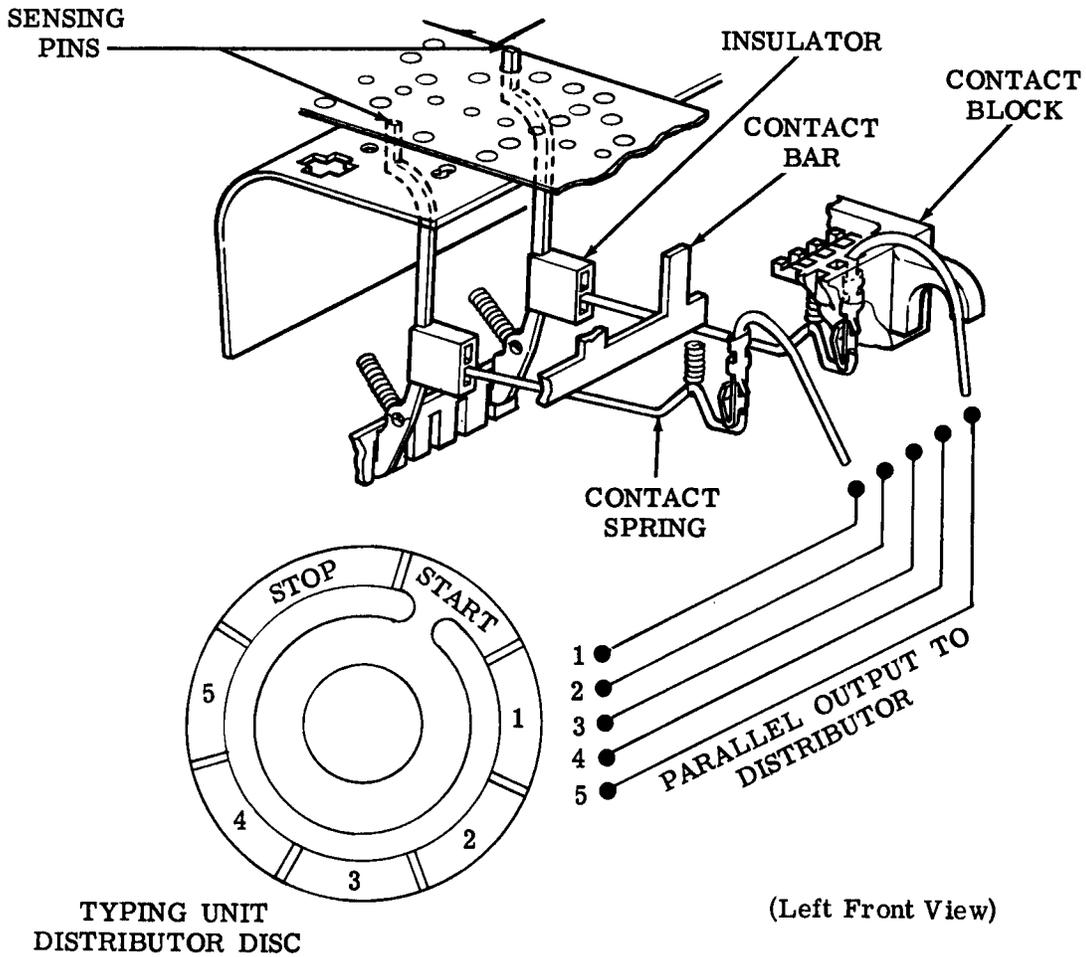

Figure 7 - Contact Block Mechanism
3.11 There is an insulator attached to each sensing pin. The insulators hold five contact springs in a down position, away from the contact bar (Figure 7). The five contact springs are connected in parallel to corresponding segments on the distributor disc in the typing unit. If a sensing pin finds a hole in the tape (marking) it continues its upward travel. The insulator attached to it also rises, allowing the contact spring to make contact with the contact bar (Figure 7). If a sensing pin does not find a hole in the tape (spacing) it remains in the down position, keeping the insulator down. This